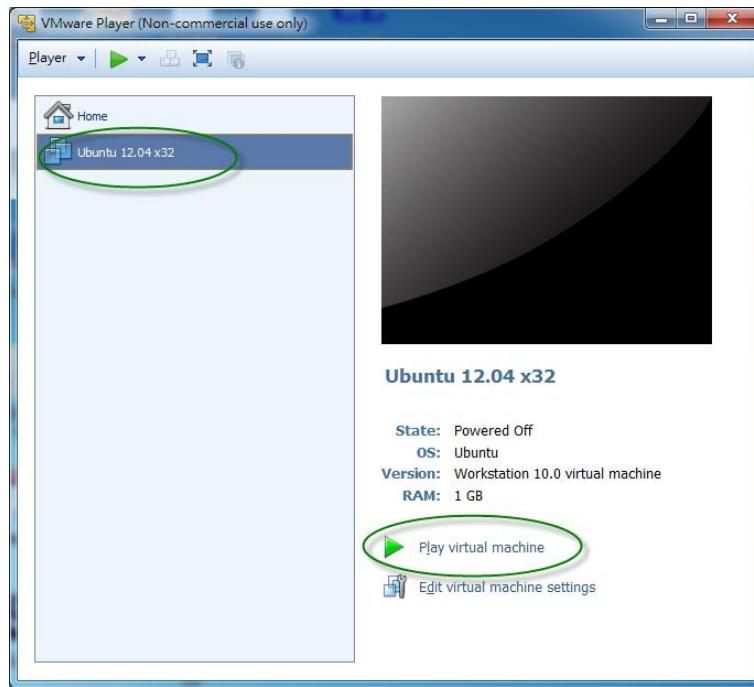

Figure 2-26 Start Ubuntu
2. Select the “Ubuntu 12.04 x32” item and click “Play virtual machine” button to start Ubuntu as shown in **Figure 2-26**.